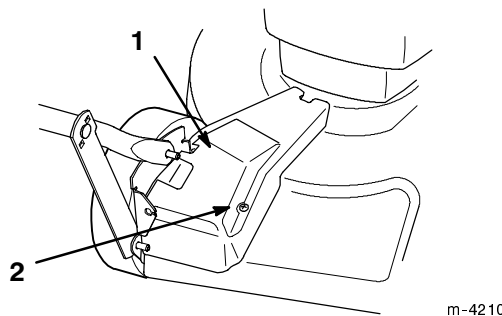

Figure 36
1. With the engine off, remove the bolt that secures the belt cover (Fig. 36) to the lawn mower housing.